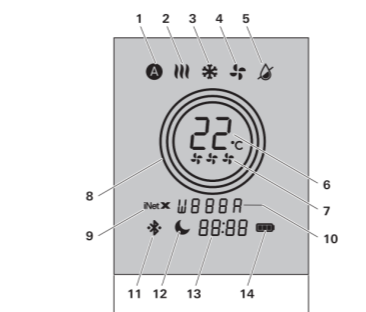

Fig 8.
1. Display (see Fig. 8)
The activity indicator (Fig. 8) changes to
The activity indicator (Fig. 8) changes to red while the air conditioning system is in heating mode. The activity indicator changes to white when the set room temperature is reached.
- The activity indicator (Fig. 8) changes to red while the air conditioning system is in heating mode.